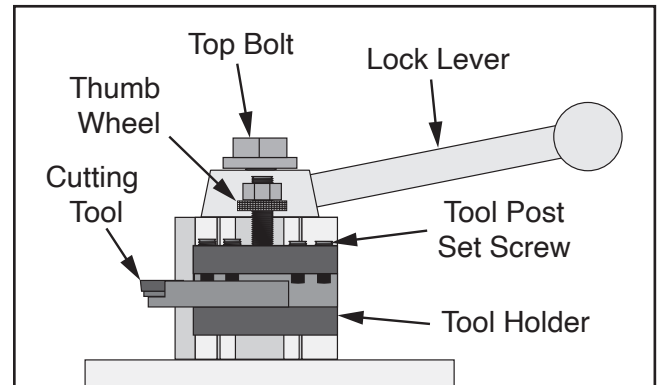

Figure 66. Example of tool mounted in tool post.
The quick-change tool post (see **Figure 66**) is a 100-series design.
4. Loosen thumb wheel jam nut (see **Figure 66** on **Page 49**).